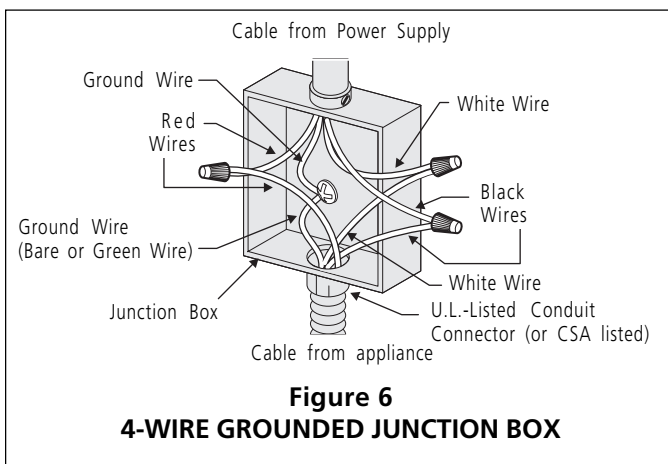

Figure 6
2. If used in mobile homes or if local codes DO NOT permit connection of the frame grounding conductor to the neutral (white) wire, separate the white and bare copper ground wires that extend out of the end of the supply cable of the appliance. Connect the white wire from supply cable to the neutral white wire in the junction box. Connect the black and red wires from the supply cable to the matching color wires in the junction box. The bare wire must now be used to ground the appliance in accordance with local electrical codes. Connect the bare copper ground wire to the grounded lead in the service panel. DO NOT ground to a gas supply pipe. DO NOT connect to electrical power supply until appliance is permanently grounded. Connect the ground wire before turning on the power (figure 6).